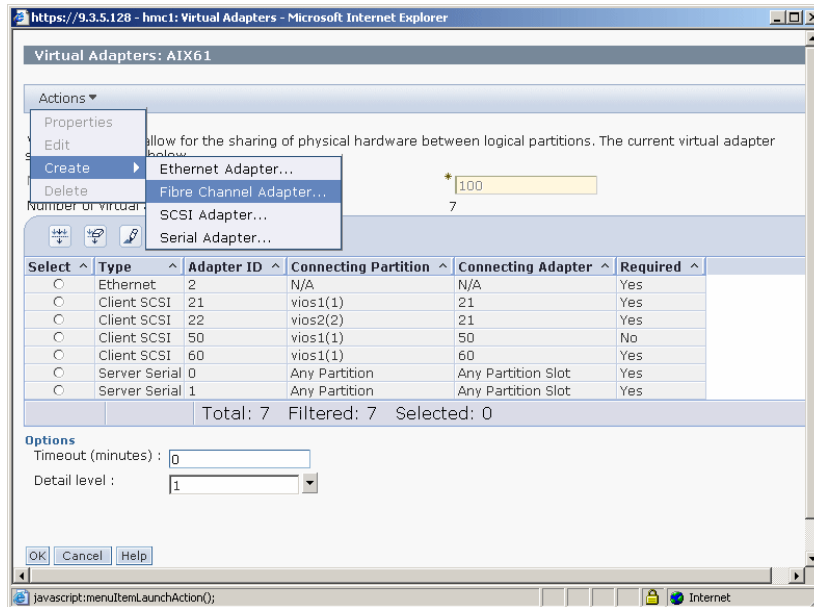

Figure 2-34 Create Fibre Channel client adapter
- b. To create a virtual Fibre Channel client adapter click on **Actions** → **Create** → **Fibre Channel Adapter...** as shown in Figure 2-34.